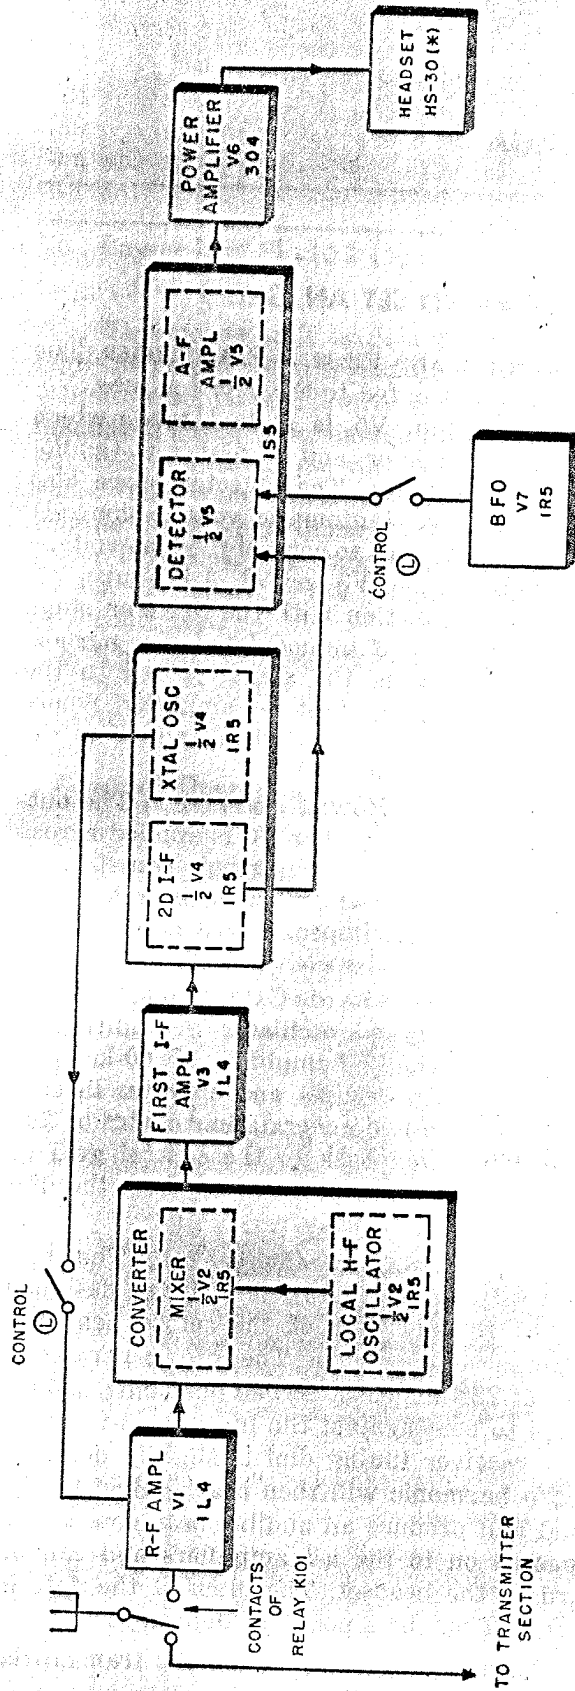

Figure 55. Block diagram of receiver section of receiver-transmitter RT-77/GRC-9.
40. Block Diagram (fig. 55)
a. GENERAL. The receiver section of Receiver-Transmitter RT-77/GRC-9 consists of a 7-tube superheterodyne receiver designed for the reception of c-w and a-m signals over a frequency range of from 2.0 to 12.0 mc. Three bands are used to cover this range; band 1 covers from 6.6 to 12.0 mc, band 2 covers from 3.4 to 6.6 mc, and band 3 covers from 2.0 to 3.6 mc. The block diagram (fig. 55) shows the signal path through the receiver. A complete schematic diagram is shown in figure 138. The same antenna is used for transmitting and receiving; switching between the two sections is accomplished by a relay in the transmitter, which is operated by the key or press-to-talk switch on the microphone.